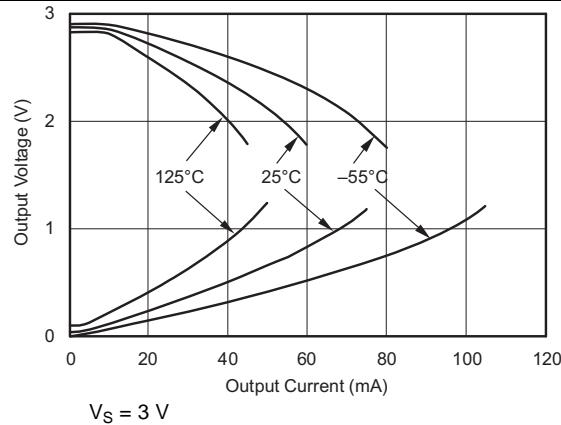
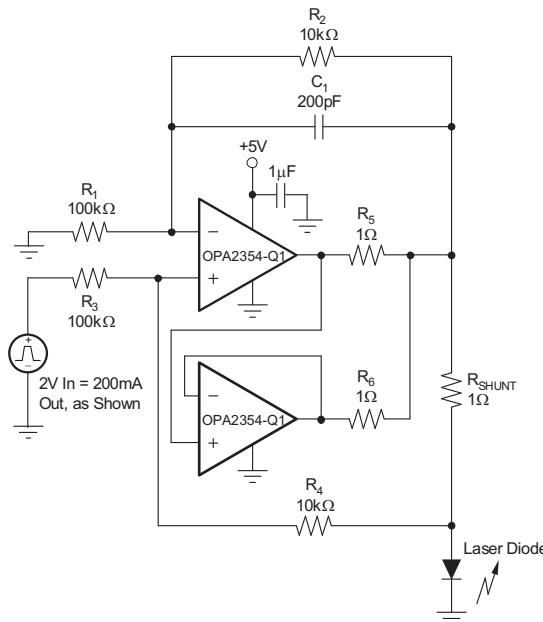

Figure 20. Output Voltage Swing vs Output Current
Figure 31. Parallel Operation
(2) See typical characteristic graph *Output Voltage Swing vs Output Current* (Figure 20).
(3) Not production tested
The device uses a class-AB output stage with common-source transistors to achieve rail-to-rail output. For high-impedance loads ($> 200 \Omega$), the output voltage swing is typically 100 mV from the supply rails. With 10Ω loads, one can achieve a useful output swing while maintaining high open-loop gain. See Figure 20, Output Voltage Swing vs Output Current.
For maximum reliability, TI does not recommend running a continuous dc current in excess of ± 100 mA. See Figure 20, Output Voltage Swing vs Output Current. A solution for supplying continuous output currents greater than ± 100 mA is operating OPAX354-Q1 family of devices in parallel, as shown in Figure 31.